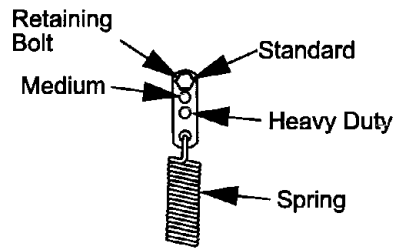

FIG. 17
- b) For a heavier drive setting, relocate the spring anchor link to either the "medium" or "heavy duty" positions as shown in Figure 17. The spring anchor links are attached to the upper rear corner of the hydro drive shields on the left and right hand sides of the machine.